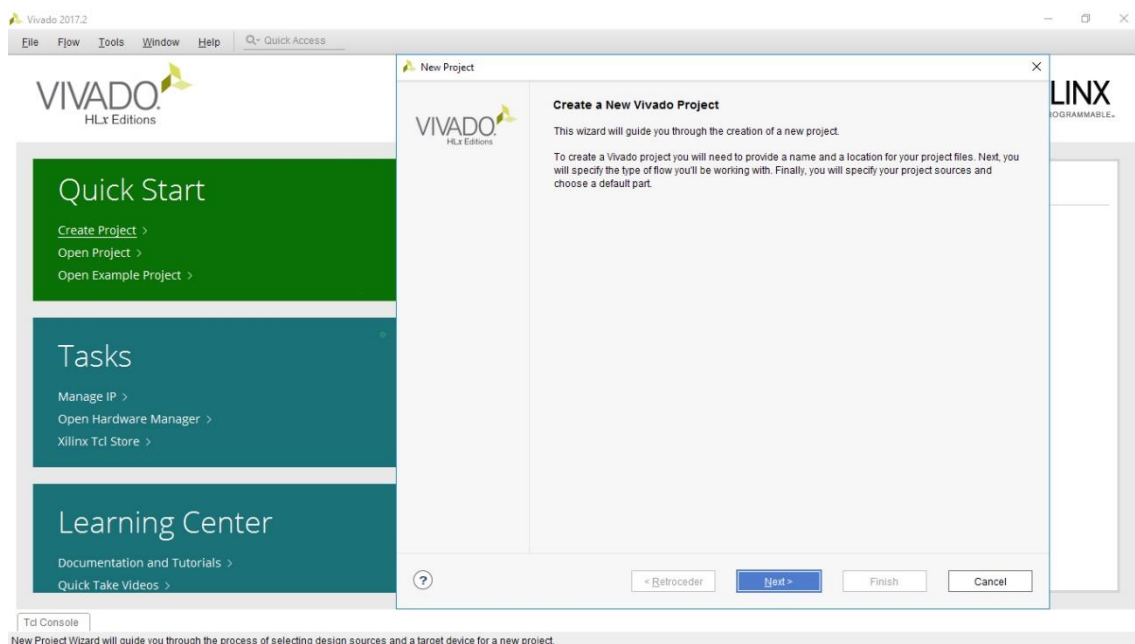

Figure 1
1. In the **Quick Start** toolbar click **Create Project** or select **File → Project → New...** in the Vivado menu bar; the **New Project** wizard appears (Figure 1)